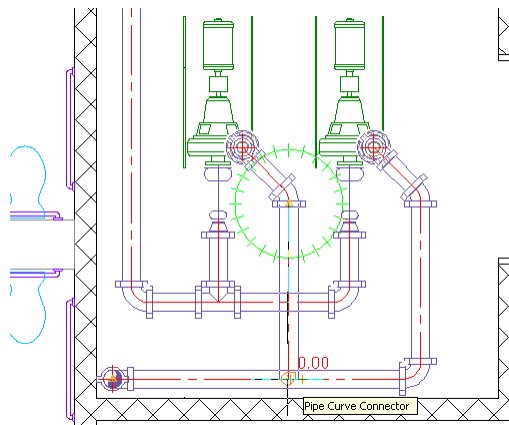

Figure 6.46
24. Click a point on the horizontal pipe along the bottom wall (see Figure 6.46) to connect the discharge piping.